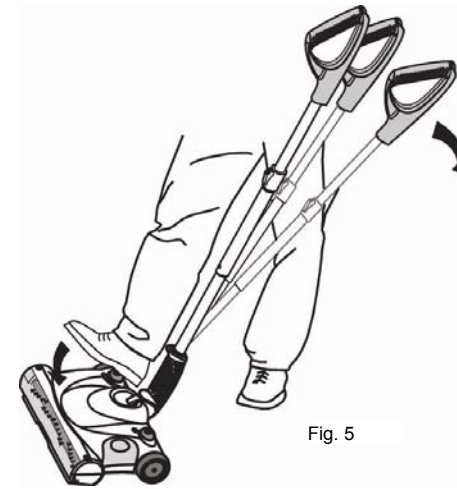

Fig. 5
3. To release the handle to a comfortable position, apply pressure to the top of the sweeper head with your foot while pulling back on the handle. (Fig. 5)